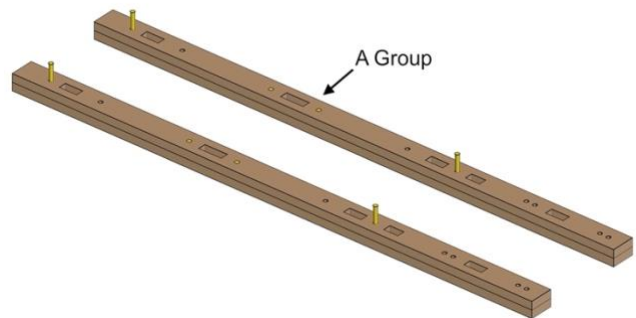

Fig. 8
- Fig. 8 shows the completed process.